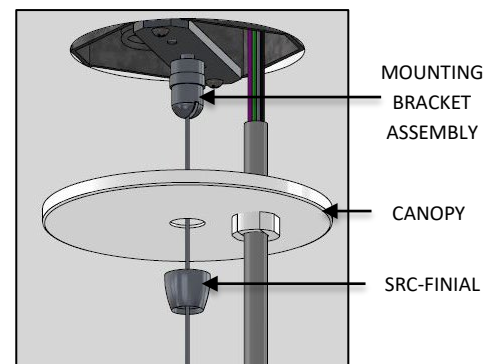

FIG. 35 – SRC-FINIAL INSTALLATION
18. Raise CANOPY and secure to ceiling by threading the SRC-FINIAL to the MOUNTING BRACKET ASSEMBLY as shown below in FIG. 35.